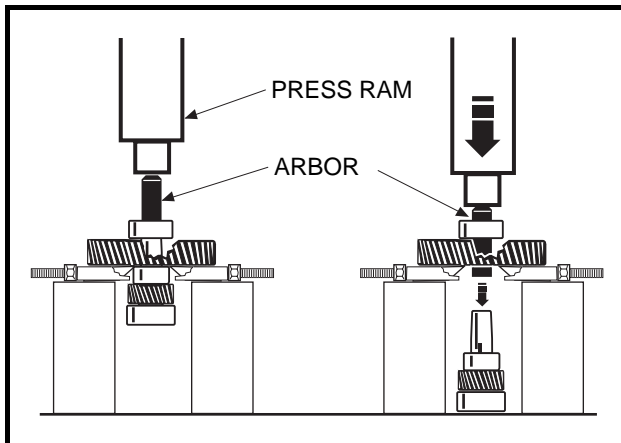

Figure 17b-14 Intermediate Gear Assembly
7. Remove key (22) (Figure 17b-4, Page 17b-3). See also Figure 17b-15, Page 17b-9.